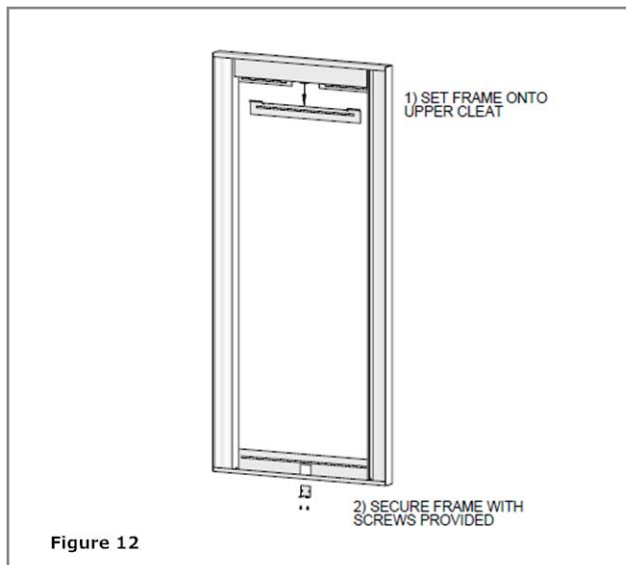

Figure 12
3. Set frame onto upper cleat and secure frame to lower cleat with screws provided. **See Figure 12**